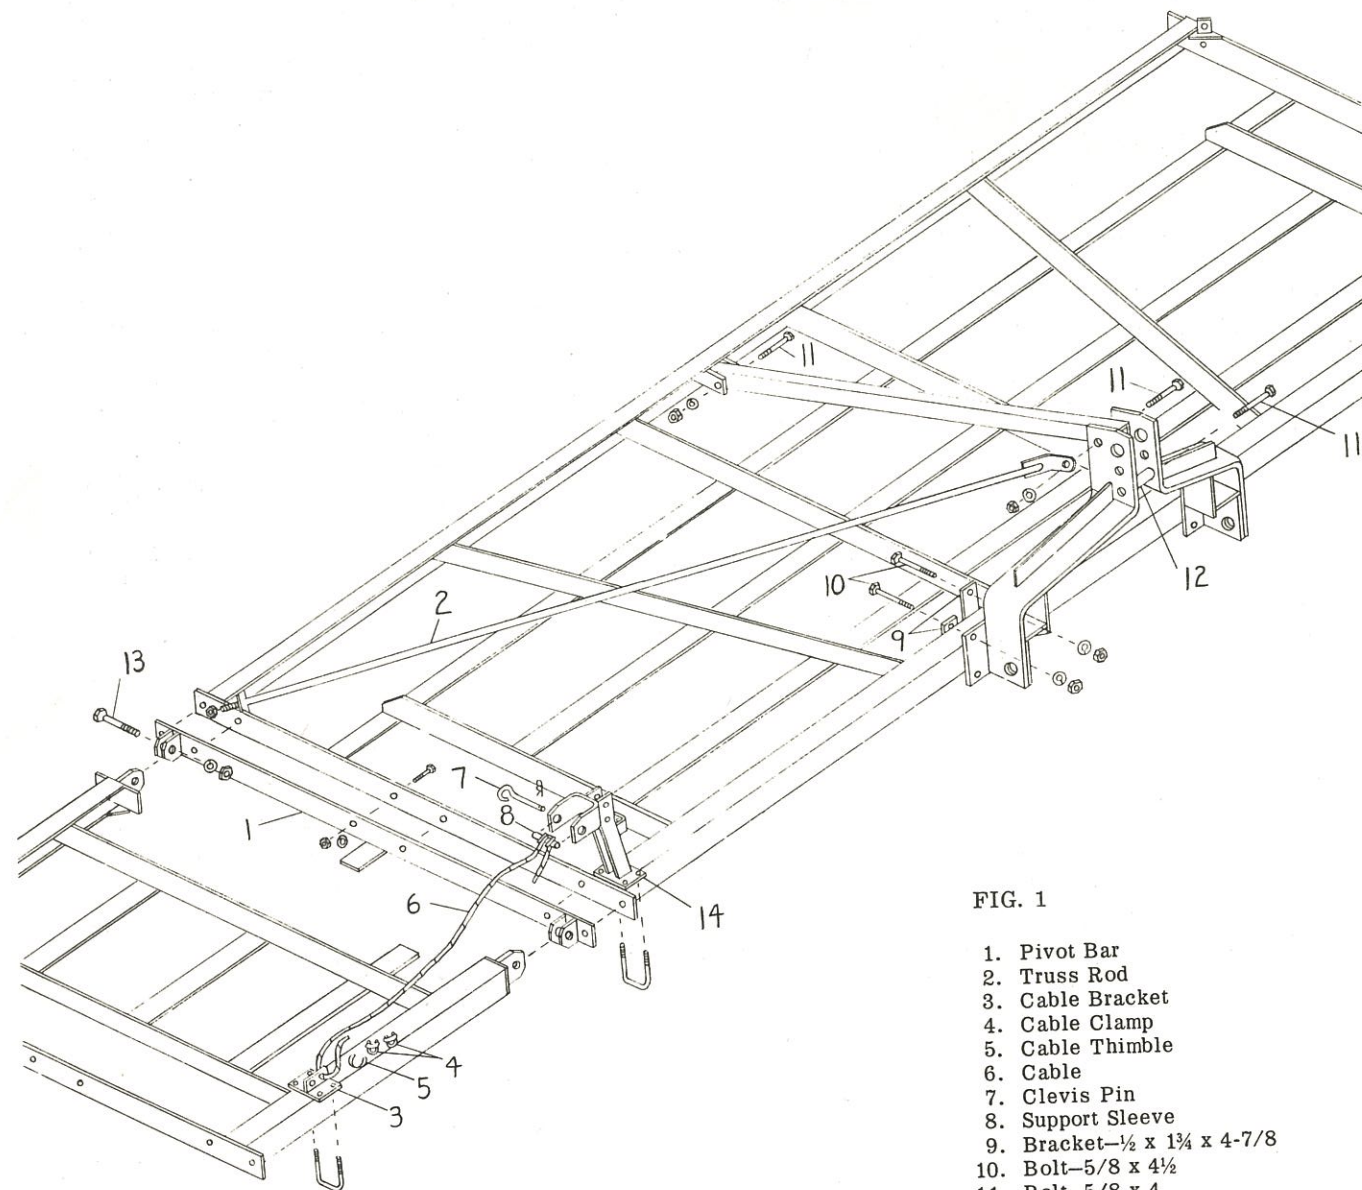

FIG. 1
- A. Begin cultivator assembly by blocking main frame approximately 24" from the floor. Position 3-pt. hitch assembly on front frame member as shown in Fig. 1. Make sure the hitch is centered on frame (center of frame is approximately $60\frac{1}{2}$ " from outside end of frame). Secure hitch assembly using four (4) brackets and eight (8) $\frac{5}{8}$ " x $4\frac{1}{2}$ " bolts, lockwashers and nuts. Place one (1) bushing between lower holes of upper portion of hitch and secure with a $\frac{5}{8}$ " x 4" bolt, lockwasher and nut. Next attach rear brace from hitch to rear of main frame using two (2) $\frac{5}{8}$ " x 4" bolts, lockwashers and nuts. (See Fig. 4)
- B. Insert threaded end of truss rod into lug on rear corner of frame and attach opposite end to hitch as shown in Fig. 1. Use previously installed bolt at hitch end of truss rod and one (1) lockwasher and nut on threaded end of truss rod. Repeat procedure on opposite side of frame.
- C. Attach a pivot bar to each end of main frame using six (6) $1\frac{1}{2}$ " x 2" bolts, lockwashers and nuts (place extension on bottom side). When
- D. Mount one (1) Wing Stop—R on right front corner of frame as shown in Fig. 1 (the rear bracket of same will bolt to upper gauge wheel as to be described in Fig. 2). Secure using two (2) U-bolts, lockwashers and nuts. The cable bracket is to be fastened on wing frame in position shown and secured with two (2) U-bolts, lockwashers and nuts. Place one (1) support sleeve into wing stop and secure with a clevis pin and hairpin cotter as shown in Fig. 1. Wrap one end of cable ($\frac{5}{16}$ x 41 Lg.) around support sleeve (between stops on sleeve) and fasten using one (1) cable thimble and two (2) cable clamps. The opposite end of cable is to be inserted through front hole of cable bracket (after inserting cable thimble in hole) and secured with two (2) cable clamps. Repeat above procedure on left side of machine.